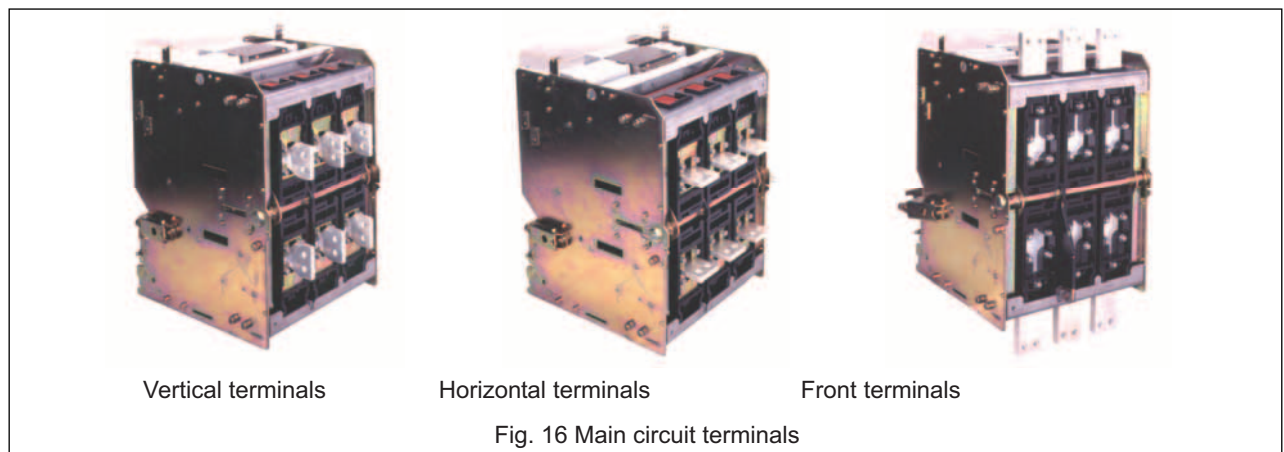

Fig. 16 Main circuit terminals
| ④⑧ | Main circuit terminals | Allow connections of external conductors. These terminals are available in three configurations as shown in Fig. 16. |